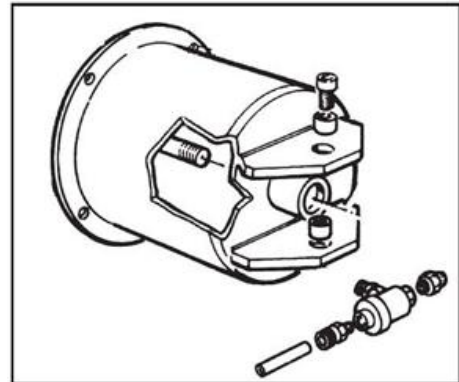

Fig. 5-6
- To clean or replace the bead separator silencer (R), refer to Fig. 5-6 and follow steps 1 and 3 above.